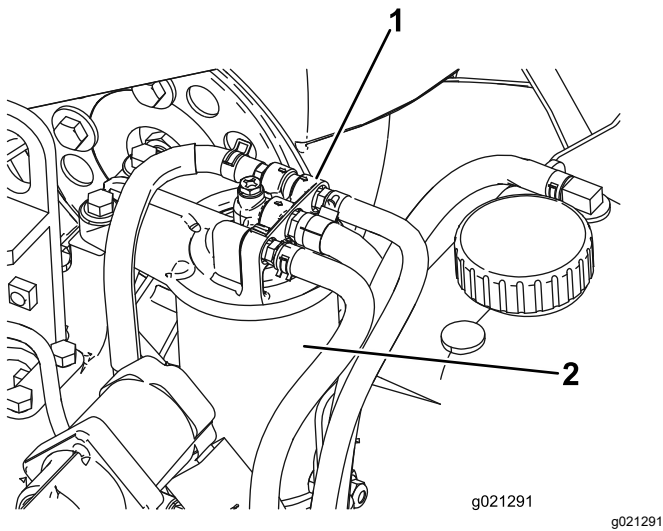

Figure 84
2. Clean the area around the fuel-filter head (Figure 84).
3. Remove the filter and clean the filter-head mounting surface (Figure 84).